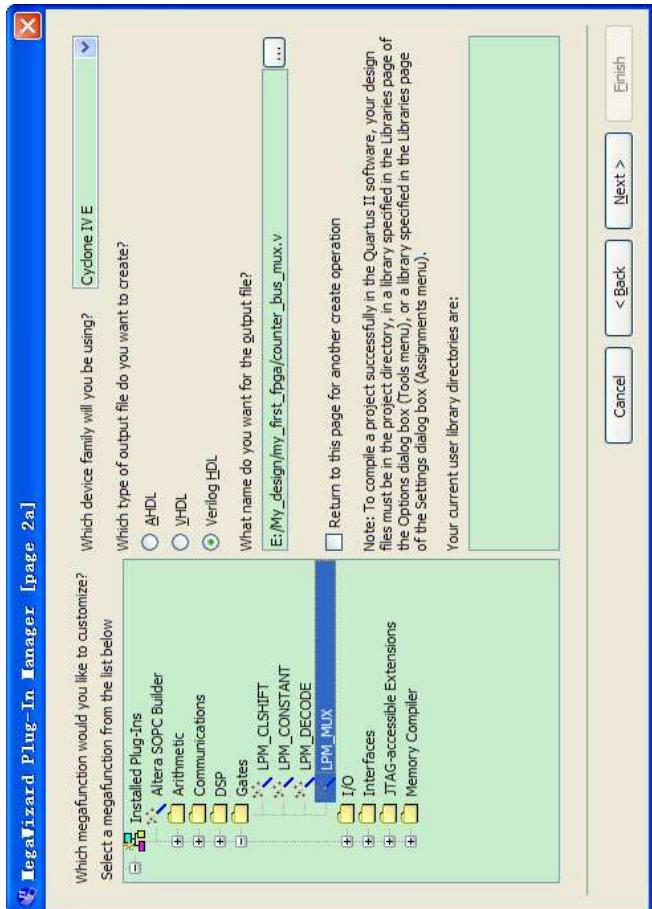

Figure 6-33 Selecting lpm_mux
5. Select the **Cyclone IV E** device family, **Verilog HDL** as the output file type, and name the output file **counter_bus_mux.v**, as shown in Figure 6-33.